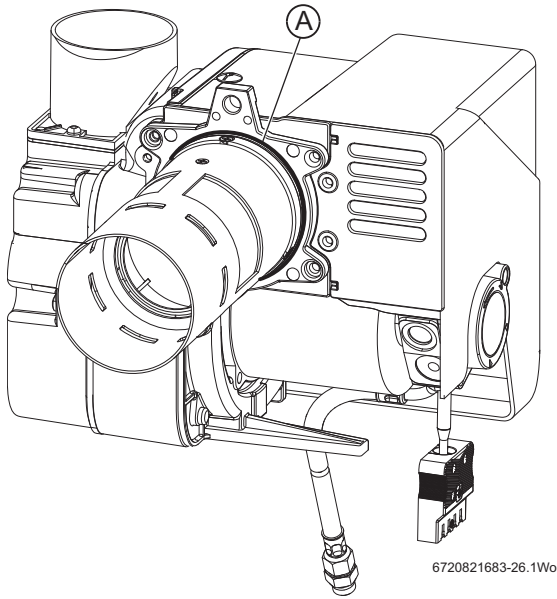

Fig. 52 12/18 Burner O-ring seal shown
- ▶ Always check that the O-ring seal (Fig. 52 item A) is in good condition before fitting the burner. Replace the O-ring seal if defective.